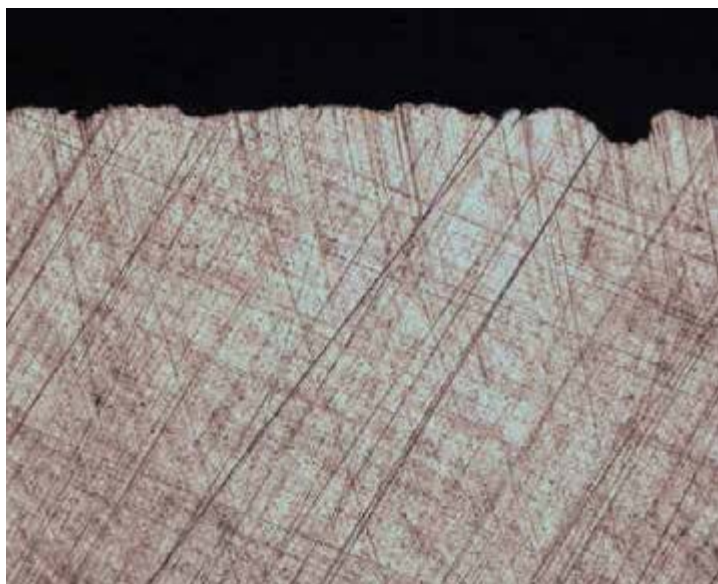

Figure 4. Surface quality after polishing on UltraPad with 9 μm MetaDi diamond suspension. Magnification 200x.
The prepared samples were analyzed at the eyepiece of a Nikon LV150 compound microscope, equipped with a 3.1MP UEye digital microscopy camera using bright field illumination (BF) (Figures 4 and 5). A magnification range between 50X and 200X was chosen for the eyepiece.